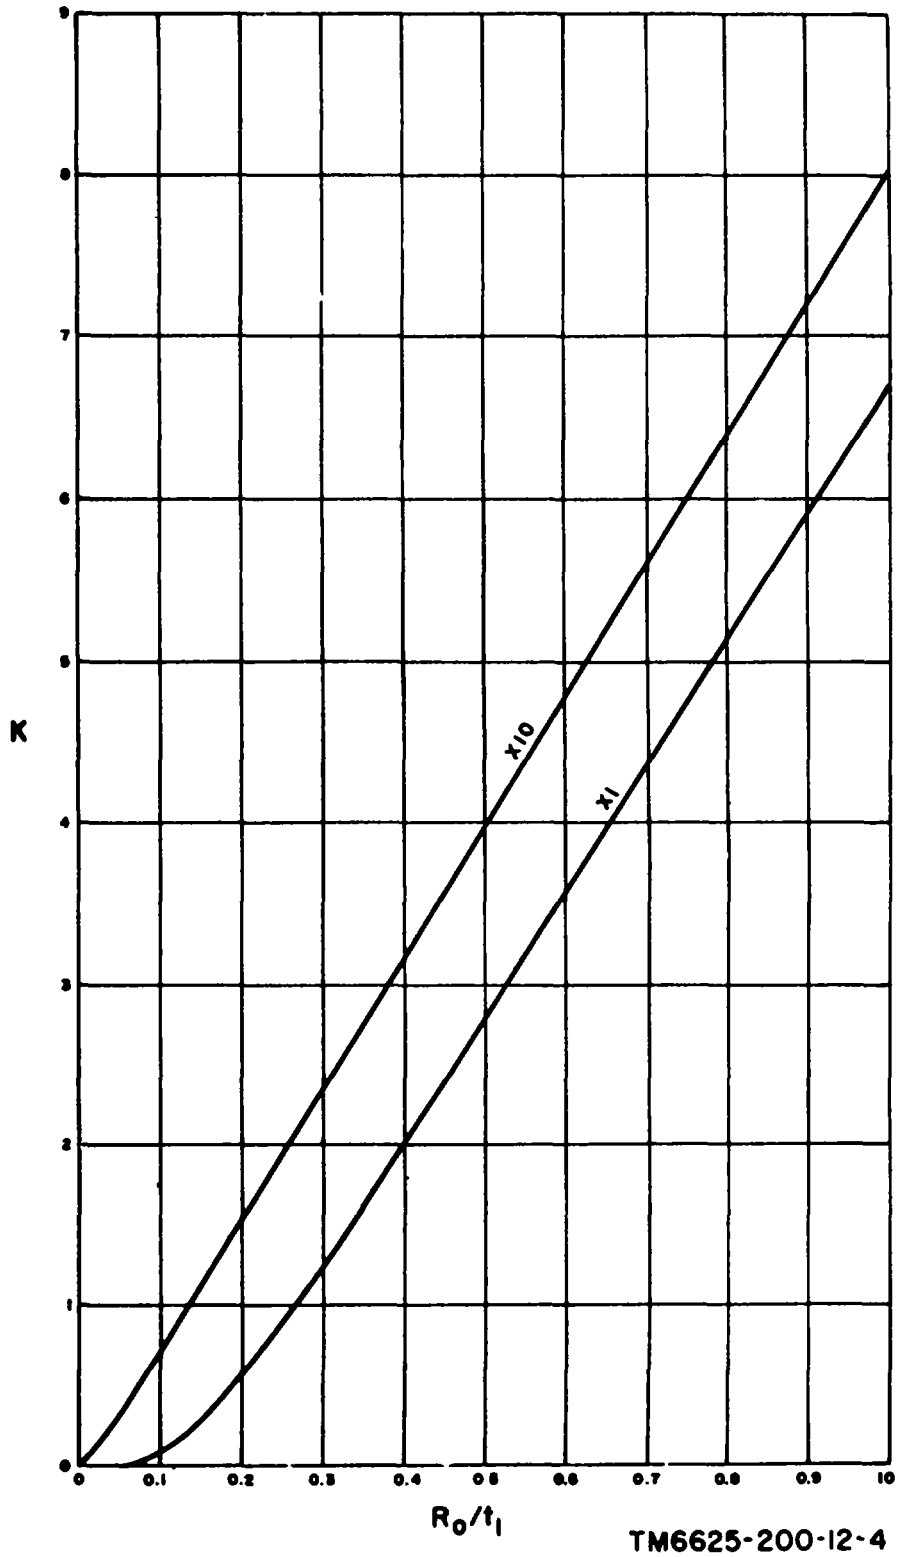

Figure 3-5. Pulse generator from factor curves.
(1) t_1 , duration of the positive portion of the pulse voltage in microseconds.
(2) t_2 ; duration of the negative portion of the pulse voltage in microseconds.
(3) PRF; pulse repetition frequency in pulses per second.
(4) R_0 ; impedance of the pulse generator in kilohms.
(5) K; pulse generator form factor (c below).
c. Pulse Generator Form Factor. The pulse generator form factor (K) is determined from the curves shown in figure 3-5. Note that the impedance of the pulse generator (R_0) divided by the duration of the positive portion of the pulse voltage (t_1) is plotted horizontally, and the pulse generator form factor (K) is plotted vertically. The running parameters indicate the value of K for any value of R_0/t_1 , between 0 and 10.
(1) The curve labeled X1 is used when the value of R_0/t_1 is between 0 and 10. When this curve is used, the scale values for R_0/t_1 , and K are read directly.
(2) The curve labeled X10 is used when the value of R_0/t_1 is between 1 and 10. When this curve is used, the scale values for R_0/t_1 , and K must be multiplied by 10.
(2) To determine T_2 , subtract the time duration of the positive portion of the pulse (t_1) from the total time available for the pulse. Note that with a PRF of 1,000 pulses per second, the time interval from the start of one pulse to the start of the next pulse is 1,000 microseconds; t_2 , =1,000-10=990 microseconds.
(3) To determine K, divide R_0 by t_1 ; R_0/t_1 , = 2/10=0.2. Apply this value to figure 3-5 and use the curve labeled X1, K=0.55.
(4) Substitute known values in the formula (pulse voltage = measured voltage X correction factor) and solve for the pulse voltage: Pulse voltage .8 X $1.4 (1 + 10/990 + 55/1000)$ =1.1328 volts.